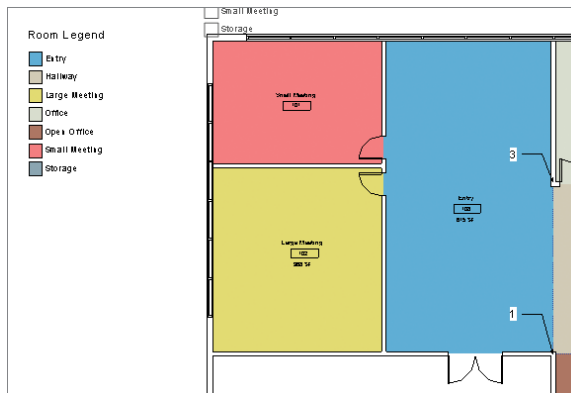

FIGURE 8.15 Resulting color fill
2. Modify the color values to R 255, G 128, and B 128. When you complete the changes, the fill color automatically updates to reflect your changes (Figure 8.15).